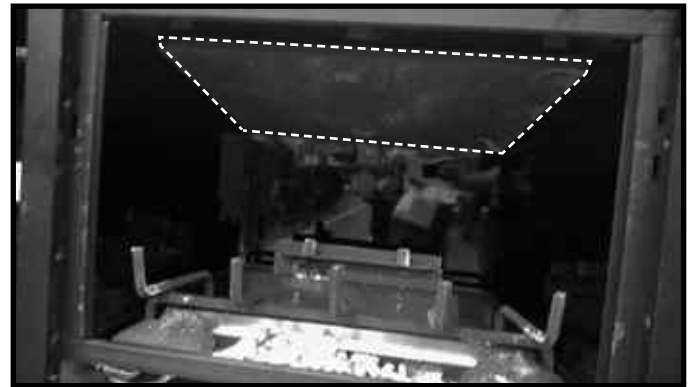

Figure 4. Install Top Refractory Panel
8. Install top refractory panel. Rest it on top of the side glass panels and gently push to the rear. See Figure 4.